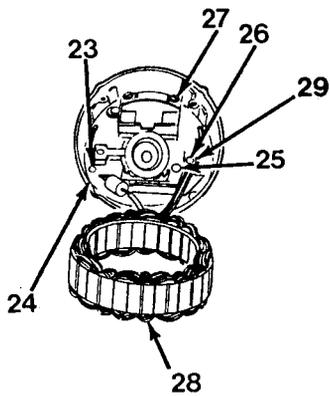
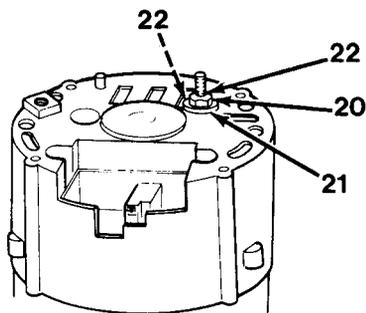

Figure 10-8
Figure 10-7
7. Install four self-tapping screws (27, Figure 10-8) to two terminals.
9. Install self-tapping screw (23) and capacitor (24, Figure 10-8).
10. Position stator assembly (28) back into rear housing.
11. Install two insulator washers (22), washer (21) and nut (20, Figure 10-7) to back of rear housing.
13. Install spacer (37), fan (18), pulley (17), cone (16), split lockwasher (15) and nut (14).